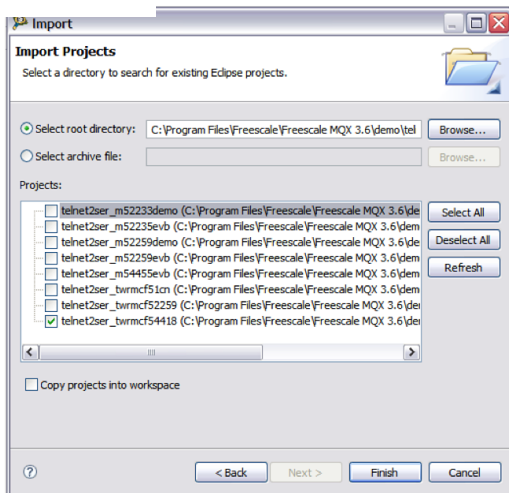

Figure 1
2. Construct the TWR-MCF5441X-KIT as instructed in Step 3 of Lab 1. Then make the following connections from the TWR-MCF5441X-KIT to the computer. See Figure 1 at the bottom of this page.